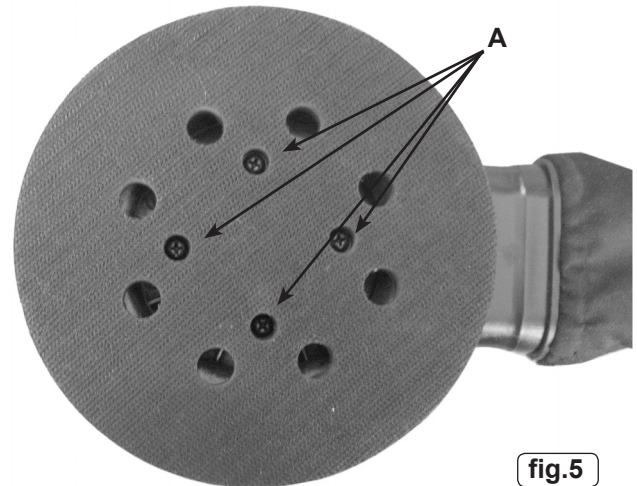

fig.5
- 4.2. Change pads when required. Ensure pad and disc RPM ratings are equal to, or exceed the machine rating. If the disc becomes unbalanced, it will cause the bearings to wear. To change the backing pad remove the four screws and washers (A) shown in fig.5, replace the pad and secure.